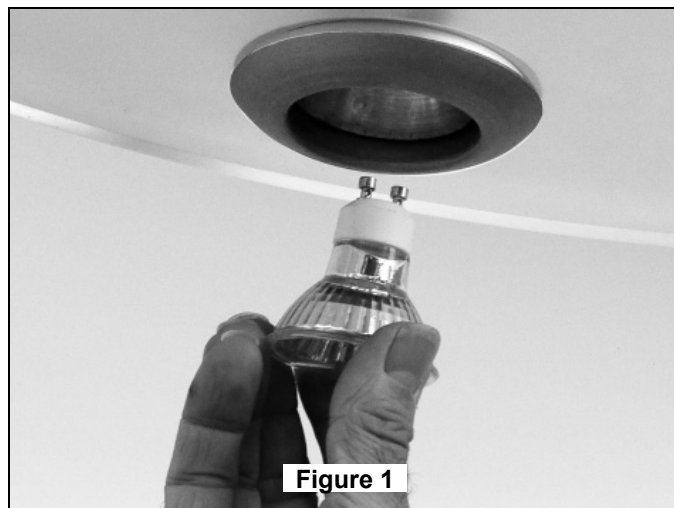

Figure 1
2. Remove burned-out bulb(s). By gently pressing upward on the bulb, twisting counter-clockwise and pulling out the bulb. (Figure 1).